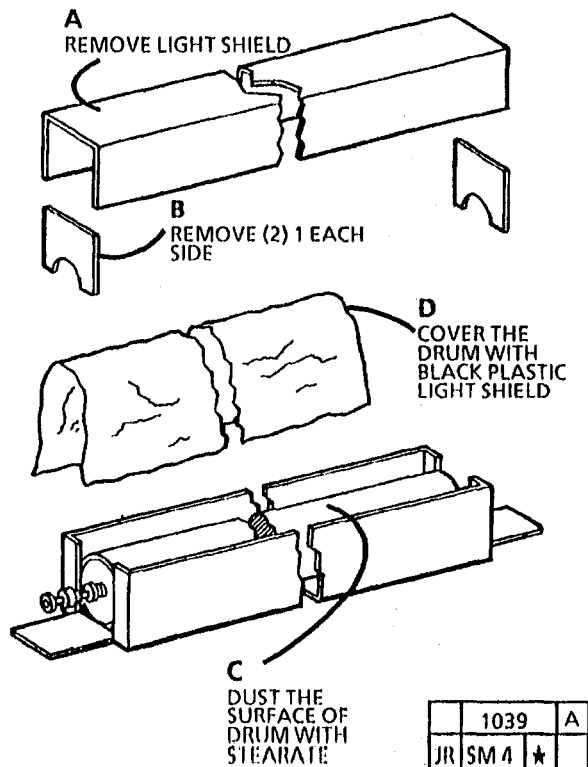

Figure 3. Prepare Drum for Installation
2. (Figure 3): Prepare drum for installation.